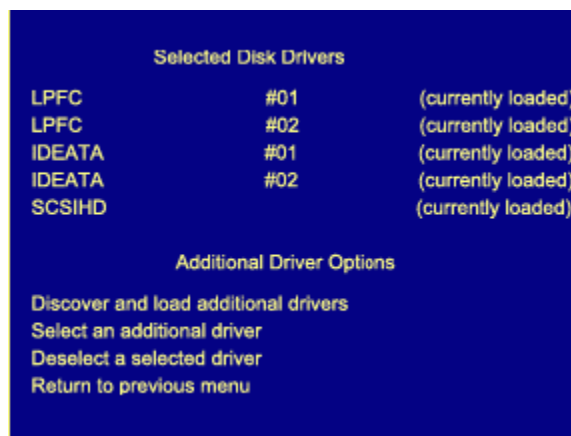

Figure 4: Selected Disk Drivers
- During configuration, a screen similar to Figure 4 appears: